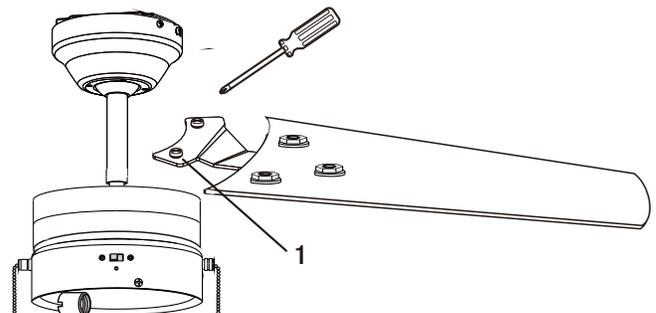

Figure 13
- Position the blade holder (D) above the motor such that the pre-installed screws on the blade holder fit into the holes in the motor (Figure 13). Tighten the pre-installed blade holder screws (1).